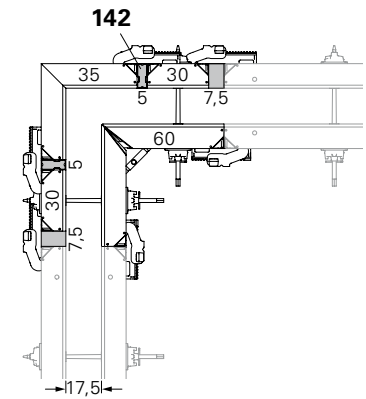

Fig. C2.02
- Wall thickness 17.5: Fig. C2.02